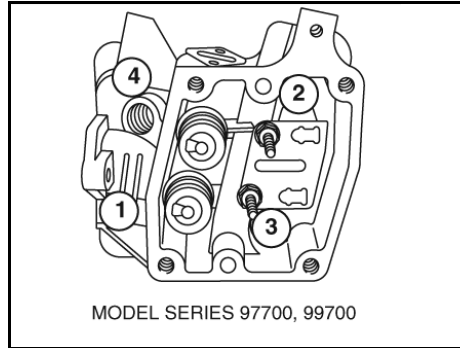

Figure 15
2. Using a new head gasket, install cylinder head on cylinder and start screws by hand. Step-torque screws in sequence shown (Figures 15, 16, 17, 18) until final torque value is achieved. Torque screws to value listed in Section 12 - Engine Specifications.